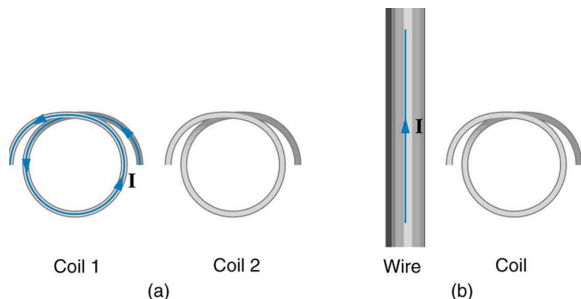

Figure 23.57 (a) The coils lie in the same plane. (b) The wire is in the plane of the coil
33. Referring to **Figure 23.57(a)**, what is the direction of the current induced in coil 2: (a) If the current in coil 1 increases? (b) If the current in coil 1 decreases? (c) If the current in coil 1 is constant? Explicitly show how you follow the steps in the **Problem-Solving Strategy for Lenz's Law**.
34. Referring to **Figure 23.57(b)**, what is the direction of the current induced in the coil: (a) If the current in the wire increases? (b) If the current in the wire decreases? (c) If the current in the wire suddenly changes direction? Explicitly show how you follow the steps in the **Problem-Solving Strategy for Lenz's Law**.
Approximately how does the emf induced in the loop in **Figure 23.57(b)** depend on the distance of the center of the loop from the wire?
(a) A lightning bolt produces a rapidly varying magnetic field. If the bolt strikes the earth vertically and acts like a current in a long straight wire, it will induce a voltage in a loop aligned like that in **Figure 23.57(b)**. What voltage is induced in a 1.00 m diameter loop 50.0 m from a $2.00 \times 10^6 \text{ A}$ lightning strike, if the current falls to zero in $25.0 \ \mu\text{s}$? (b)